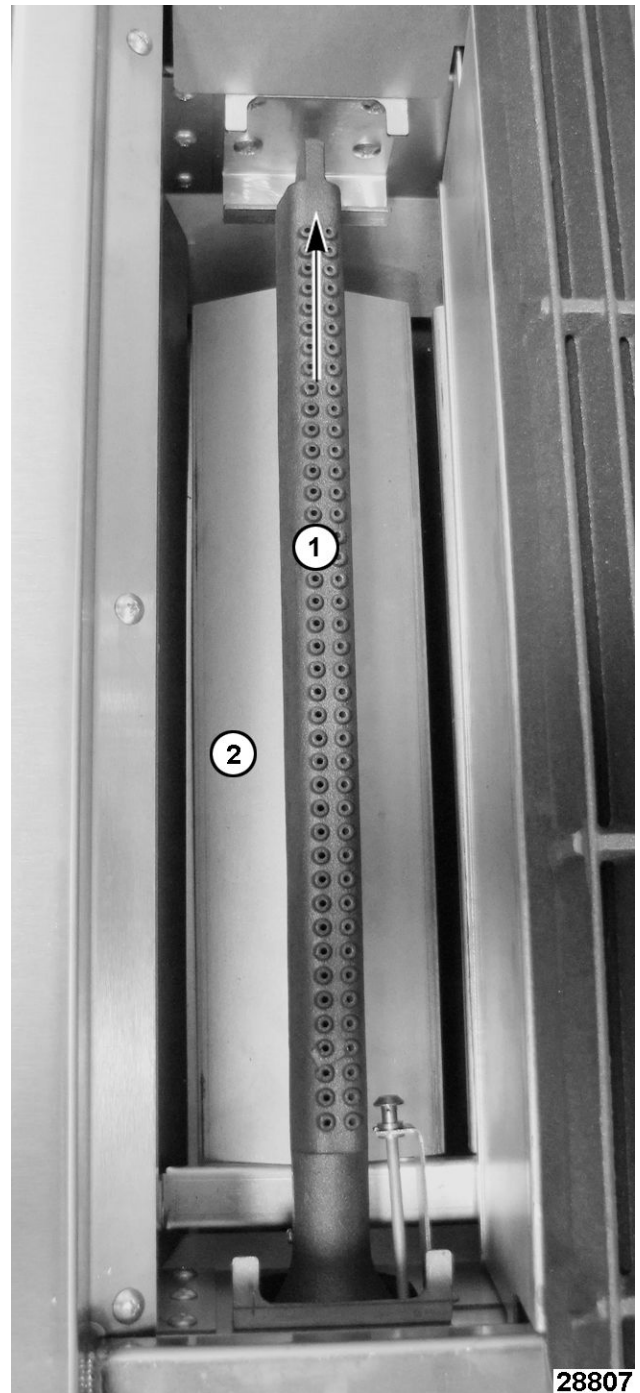

Fig. 69
4. Remove burner (1, Fig. 69) and deflector (2, Fig. 69) by lifting at the rear of burner.